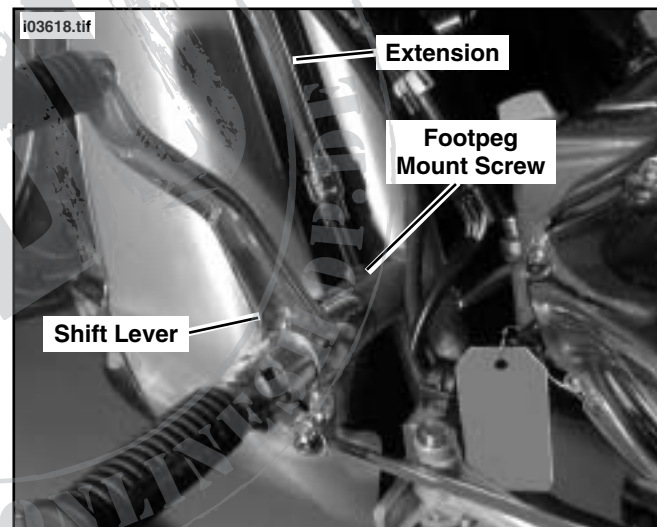

Figure 2. Remove Left Footpeg
2. See Figure 2. On left side of bike, remove screw securing existing footpeg mount and slide mount out through shift lever. Save screw for re-installation.